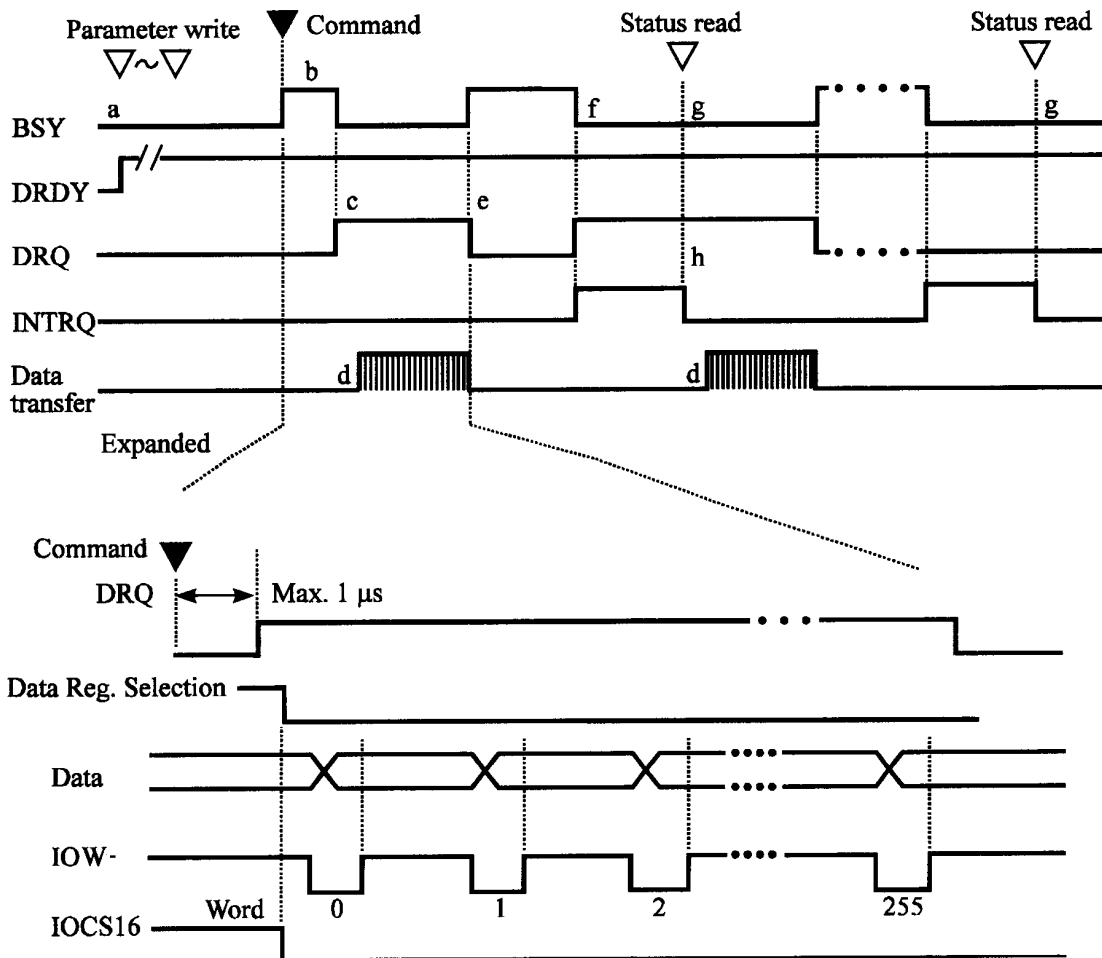

Figure 5.5 WRITE SECTOR(S) command protocol
Figure 5.5 shows an example of WRITE SECTOR(S) command protocol.